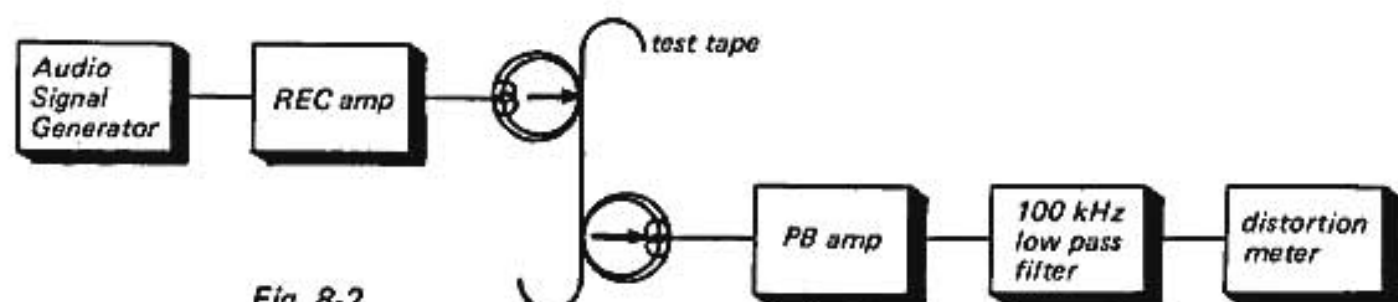

Fig. 8-2
- 2) Play back the tape. Connect the equalizer circuit to LINE OUTs of both channels as shown in Fig. 8-2, and read the distortion by the distortion meter. See Fig. 8-7 for the response of the equalizer circuit.